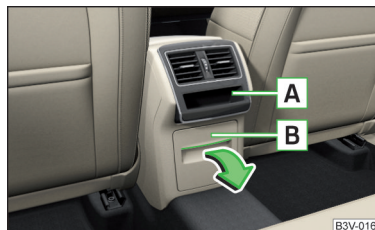

Fig. 98
In the rear centre console there is an equipment-dependent open storage compartment **A** and a lockable storage compartment **B** » Fig. 98.
- » To **open**, pull the storage compartment **B** on the upper part of the recess and fold down the compartment in the direction of arrow » Fig. 98.